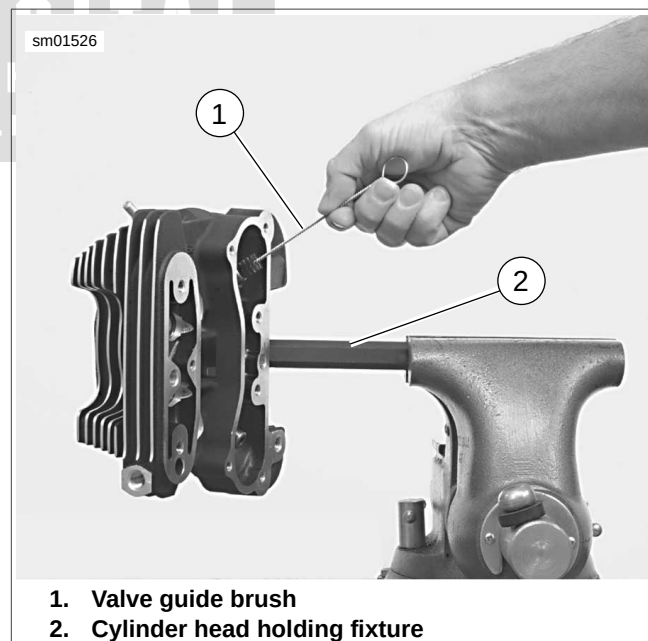

Figure 3-127. Scrubbing Valve Guide Bore
- See Figure 3-127. Clean valve guide bore with the VALVE GUIDE CLEANING BRUSH (Part No. HD-34751) (1).
10. See Figure 3-127. Clean bore with the VALVE GUIDE CLEANING BRUSH (1).